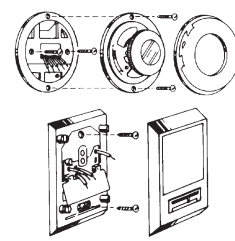

Figure 1
2. Remove cover of old thermostat to expose wires. Do not disconnect wires. (Figure 1)